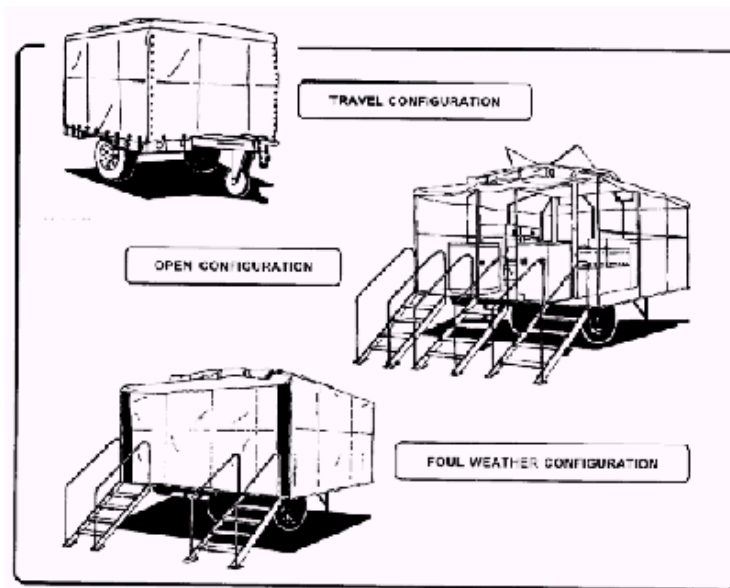

Figure 3-14, MKT Configurations
1. Configuration. The MKT is covered by a metal roof that can be lowered for storage or transport or raised when food is prepared and served. After the roof has been raised, mosquito netting may be attached to keep insects out. Also, the kitchen has detachable fabric sides to protect troops from inclement weather. Figure 3-13 shows the MKT set up in different environments. Figure 3-14 shows the MKT in its three configurations: